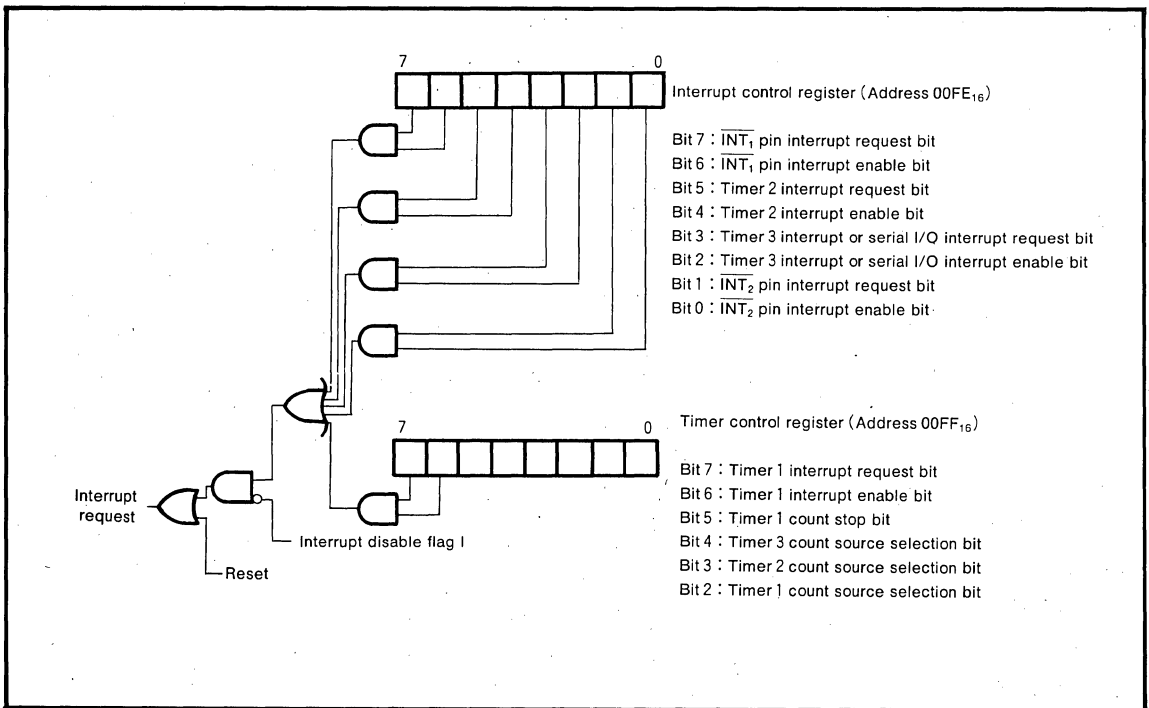

Fig.3 Interrupt control
When an interrupt is accepted, the contents of certain registers are pushed into specified locations, as discussed in the stack pointer section, and the interrupt disable flag (I) is set, and the program jumps to the address specified by the interrupt vector, and the interrupt request bit is cleared automatically. The reset interrupt is the highest priority interrupt and can never be inhibited. Except for the reset interrupt, all interrupts are inhibited when the interrupt disable flag is set to "1". All of the other interrupts except key on wake up function can further be controlled individually via the interrupt control register shown in Figure 3. An interrupt is accepted when the interrupt enable bit and the interrupt request bit are both "1" and the interrupt disable flag is "0". The interrupt request bits are set when the following conditions occur:
- (1) When the  $\overline{\text{INT}}_1$  or  $\overline{\text{INT}}_2$  pins goes from "H" to "L"
- (2) When the levels any pin of P2 goes "L" (at power down mode)
- (3) When the contents of timer 1, timer 2, timer 3 or the counter of serial I/O goes to "0"